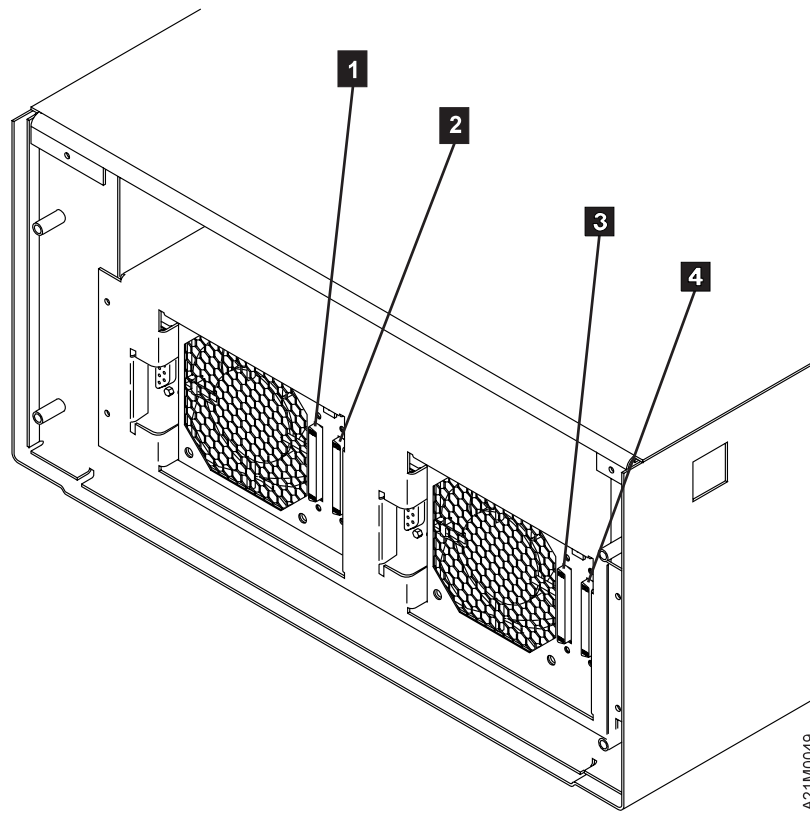

Figure 26. Rear View of Model C02 or C12
3. Ensure the SCSI Bus Jumper (P/N 49G6456) is connected to the rightmost SCSI connector on the back of tape drive 1, and to the leftmost SCSI connector on the back of tape drive 2. (See items **2** and **3** in Figure 26 on page 67).
4. If the Magstar MP is the first, or only, device in line connected to the initiator, connect the SCSI cable coming from the initiator to the leftmost SCSI connector on the back of the library. (See item **1** in Figure 26 on page 67).
5. If the Magstar MP is **not** the first device on the SCSI bus, connect the SCSI interface cable coming from the next closest device to the leftmost SCSI connector on the back of the library. (See item **1** in Figure 26 on page 67).
6. If this is the last device on the SCSI bus, locate the SCSI interface terminator (P/N 61G8324) and attach it to the rightmost SCSI interface connector on the back of the library. (See item **4** in Figure 26 on page 67). If the library is **not** the last device on the SCSI bus, locate the SCSI interface cable to the next device, and connect it to the unused, rightmost SCSI interface connector on the back of the library. (See item **4** in Figure 26 on page 67).
8. If one is installed, remove the SCSI Bus Jumper (P/N 49G6456) that connects the SCSI connector on the back of tape drive 1 to the SCSI connector on the back of tape drive 2. (See items **2** and **3** in Figure 26 on page 67).
9. If tape drive 1 in the Magstar MP is the first, or only, device in line connected to the initiator, connect the SCSI cable coming from the initiator to the leftmost SCSI connector on the back of tape drive 1. (See item **1** in Figure 26 on page 67).
10. If tape drive 1 is **not** the first device on the SCSI bus, connect the SCSI interface cable coming from the next closest device to the leftmost SCSI connector on the back of tape drive 1. (See item **1** in Figure 26 on page 67).
11. If tape drive 1 is the last device on the SCSI bus, locate the SCSI interface terminator (P/N 61G8324) and attach it to the rightmost SCSI interface connector on the back of tape drive 1. (See item **2** in Figure 26 on page 67).
12. If tape drive 1 is **not** the last device on the SCSI bus, locate the SCSI interface cable to the next device, and connect it to the unused, rightmost SCSI interface connector on the back of tape drive 1. (See item **2** in Figure 26 on page 67).
13. If tape drive 2 in the Magstar MP is the first, or only, device in line connected to the initiator, connect the SCSI cable coming from the initiator to the leftmost SCSI connector on the back of tape drive 2. (See item **3** in Figure 26 on page 67).
14. If tape drive 2 is **not** the first device on the SCSI bus, connect the SCSI interface cable coming from the next closest device to the leftmost SCSI connector on the back of tape drive 2. (See item **3** in Figure 26 on page 67).
15. If tape drive 2 is the last device on the SCSI bus, locate the SCSI interface terminator (P/N 61G8324) and attach it to the rightmost SCSI interface connector on the back of tape drive 2. (See item **4** in Figure 26 on page 67).
16. If tape drive 2 is **not** the last device on the SCSI bus, locate the SCSI interface cable to the next device, and connect it to the unused, rightmost SCSI interface connector on the back of tape drive 2. (See item **4** in Figure 26 on page 67).
17. When the Magstar MP is correctly connected, all four SCSI connectors on back of the Magstar MP (see **1**, **2**, **3**, and **4** in Figure 26 on page 67) must have either a SCSI cable or a SCSI terminator attached.